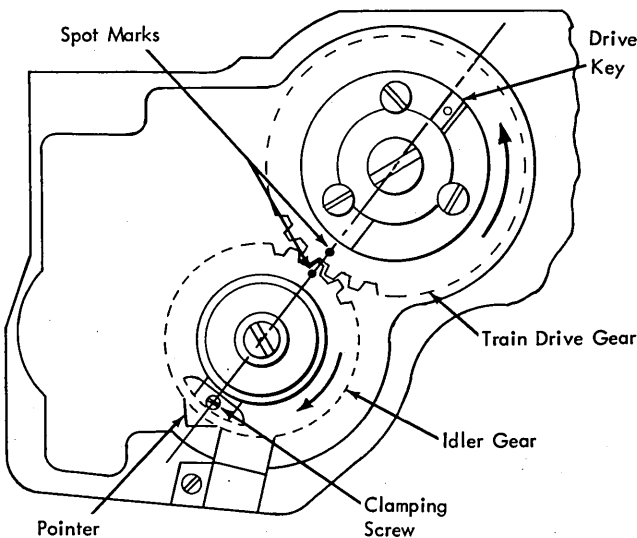

Figure 4-85. UCS/PCS/MCS Train Drive Gear to Idler Gear Timing
2. Align and mesh the idler gear with the train drive gear so that the pointer on the idler gear and the leading edge of the train drive-gear key are in line with an imaginary line passing through the centers of both gears as shown in Figure 4-85. This alignment should obtain the required timing condition. Any required variation in the timing relationship between the UCS/PCS/MCS pulses and the gated standard pulse (PSS) home can be obtained by shifting the pointer. Remeshing should not be necessary on machines having spot-marked gears. On machines without spot marks, it may be necessary to shift the gear mesh one tooth either way, if the proper pulse-timing relationship cannot be obtained within the adjustment limits of the pointer.
If the machine does not have spot-marked gears, once the correct mesh has been obtained by this procedure, the CE should supply his own spot marks in the positions shown in Figure 4-85. Observe that one of the spots is on the tooth of the idler gear; the other is on the tooth space (between the teeth) of the train drive gear. Because these gears are hardened, do not use a punch. Use a drop of dark nail polish or paint, etc.